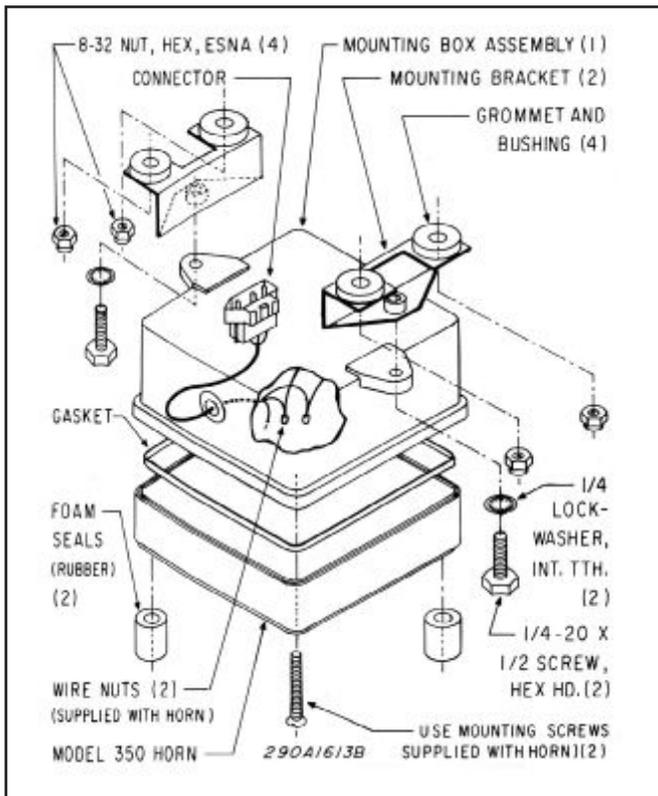

Figure 1.
2. Insert first a grommet and then a bushing into each of the two holes, in both mounting brackets, as shown in figure 1.
3. Install the supplied gasket in the mounting box groove, as indicated in figure 1.
4. See figure 1. Connect the horn supply wires to the wires in the mounting box assembly, using the wire nuts supplied with the horn.
12. Attach the horn to the mounting brackets, that were installed in step 10, using two 1/4"-20 x 1/2 hex head machine screws and lockwashers, as indicated in figure 1.